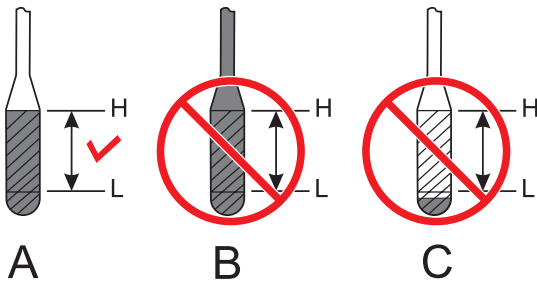

Figure 29. Engine Oil Level
3. Reinsert the dipstick, then remove the dipstick from its holder. Check the oil level shown on the dipstick (Figure 29).